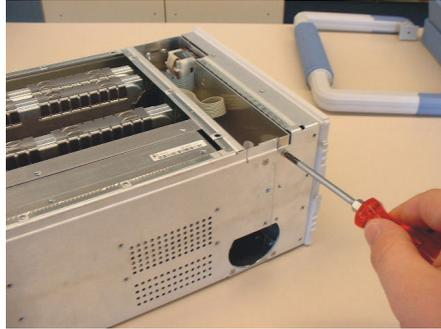
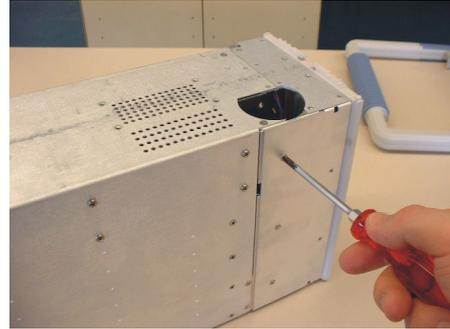

Figure 1-11
Figure 1-12
4. Undo 7 special screws (two on each side, see Figure 1-11; 3 at bottom see Figure 1-12).